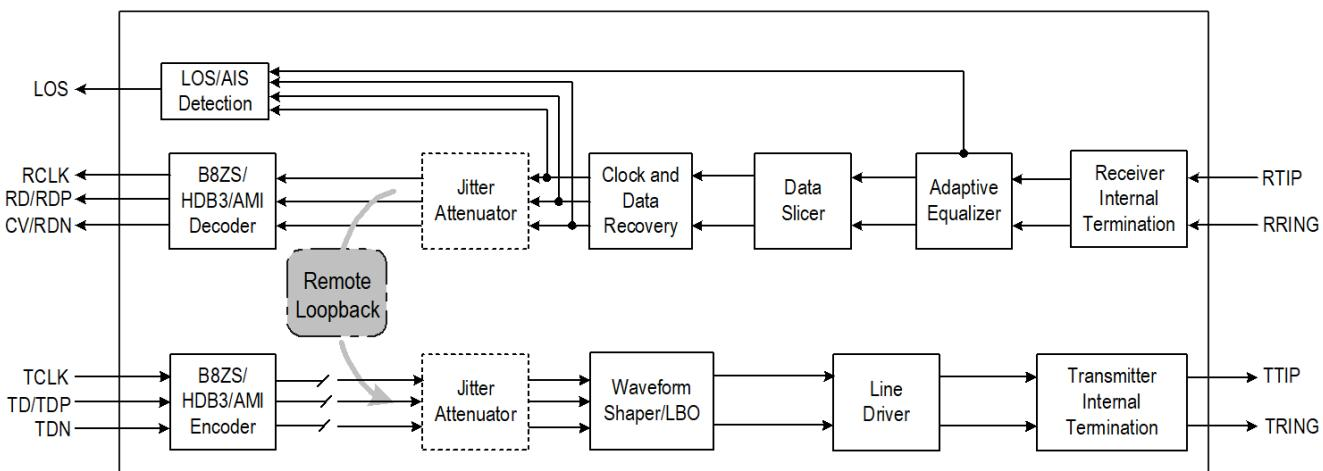

Figure-15 Remote Loopback
When the RLP bit (MAINT1, 0EH) is set to '1', the chip is configured in Remote Loopback mode. In this mode, the recovered clock and data output from Clock and Data Recovery on the receive path is looped back to the jitter attenuator (if enabled) and Waveform Shaper in transmit path. Figure-15 shows the process.
5.1 s, the Remote Loopback (shown as Figure-15) will be established automatically, and the RLP\_S bit (STAT1, 18H) will be set to '1' to indicate the establishment of the Remote Loopback. The IBLBA\_S bit (STAT0, 17H) is set to '1' to generate an interrupt. In this case, the Remote Loopback mode will still be kept even if the receiver stop receiving the Activate Loopback Code.